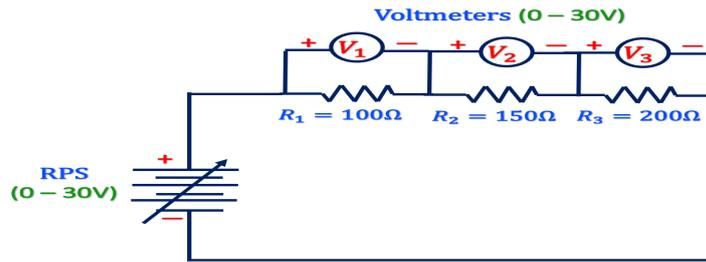

Figure 2.2. The Voltage Law, (KVL)
2. Part (2) Determine the theoretical voltages then set up of KVL for Figure 2.2 , and record all the voltages in Table 2.2.
2. Part (2) Set up the circuit as shown in Figure 2.2. Apply a DC power supply of 15V and measure the voltages (V1, V2, V3) in the circuit (i.e. connect the voltmeters across these elements as shown in Figure 2.2) and complete table 2.2. Compare the values obtained from part 1 and part 2.